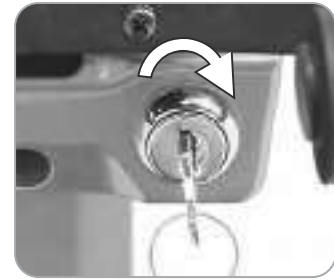

Figure 15
- Turn the key clockwise to turn on, counterclockwise to turn off (Figure 15)